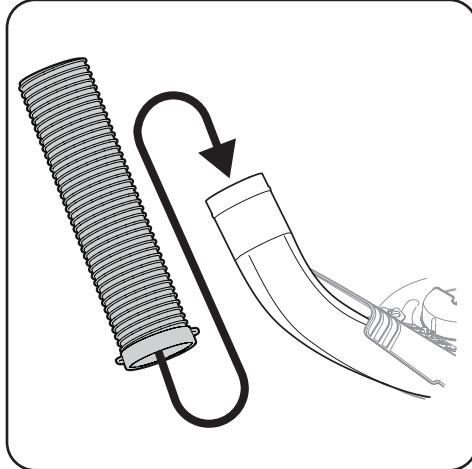

Figure 4-30
- Lift by the handles at the bottom of the chute tube. Slide the chute tube over the chute elbow mounted on the cutting deck, as shown in Figure 4-30.